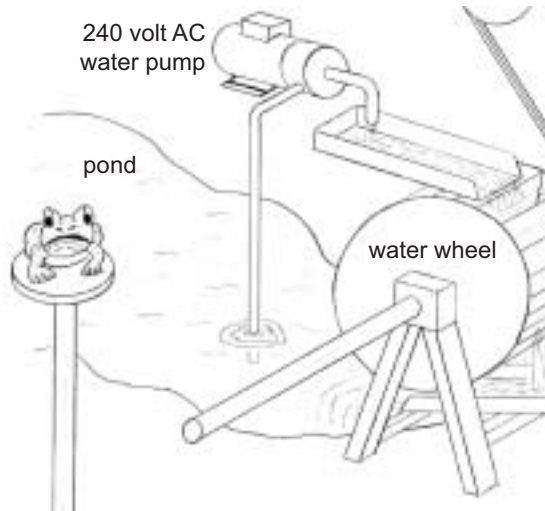

Figure 8
- j. Design and draw on the diagram below (Figure 8) a **worm gear** system that would enable the frog to rotate. The direction of rotation is not important.